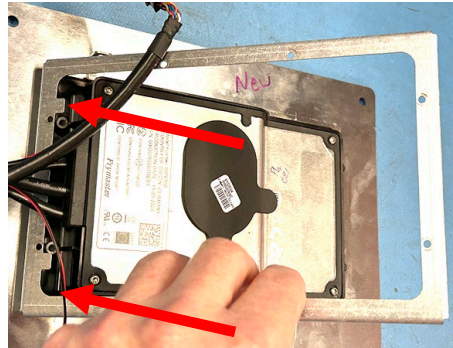

Figure 11
14. Insert the wire harnesses through the new control frame attachment. Ensure the frame is oriented with the two (2) tabs as shown on Figure 11.